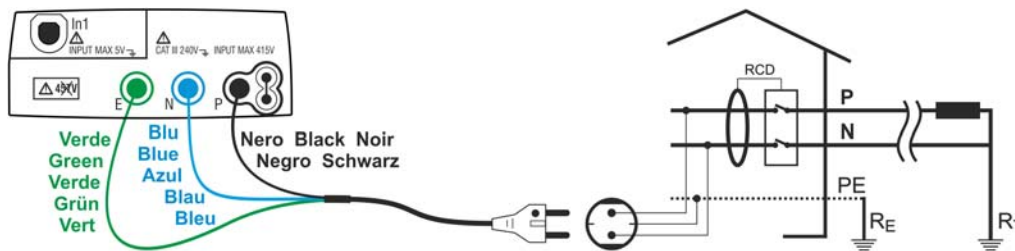
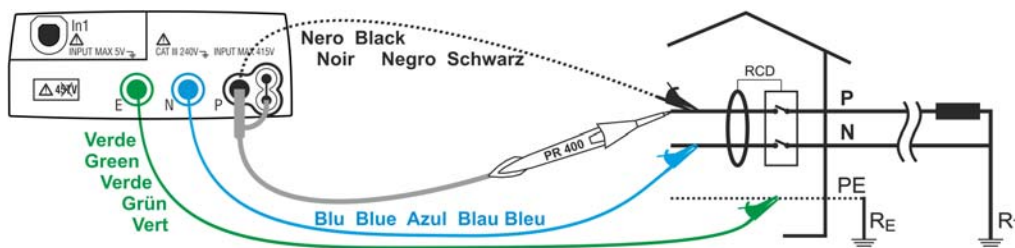
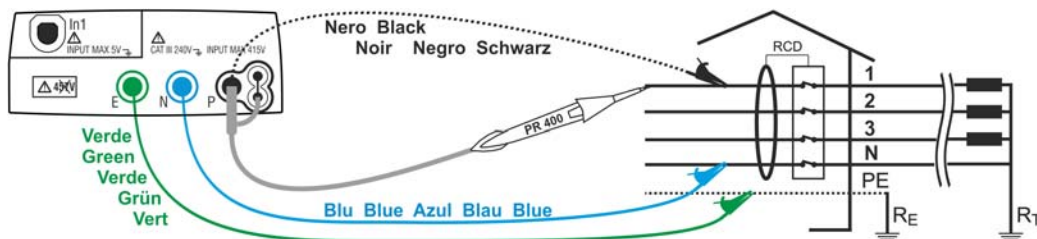

Fig. 20: Instrument connection for 230V single-phase or double-phase P-PE fault loop impedance measurement through shuko cable
Fig. 21: Instrument connection for 230V single-phase or double-phase P-PE fault loop impedance measurement through single cables and remote probe
Fig. 22: Instrument connection for 400V + N + PE three-phase P-PE fault loop impedance measurement through single cables and remote probe
4. Insert the green, blue and black connectors of the three-pin shuko cable into the corresponding input leads E, N and P of the instrument. As an alternative, use the single cables and apply the relevant alligator clips to the free ends of the cables. It is also possible to use the remote probe by inserting its multipolar connector into the input lead P. Connect the shuko plug, the alligator clips or the remote probe to the electrical mains according to Fig. 20, Fig. 21, Fig. 22 and Fig. 23.